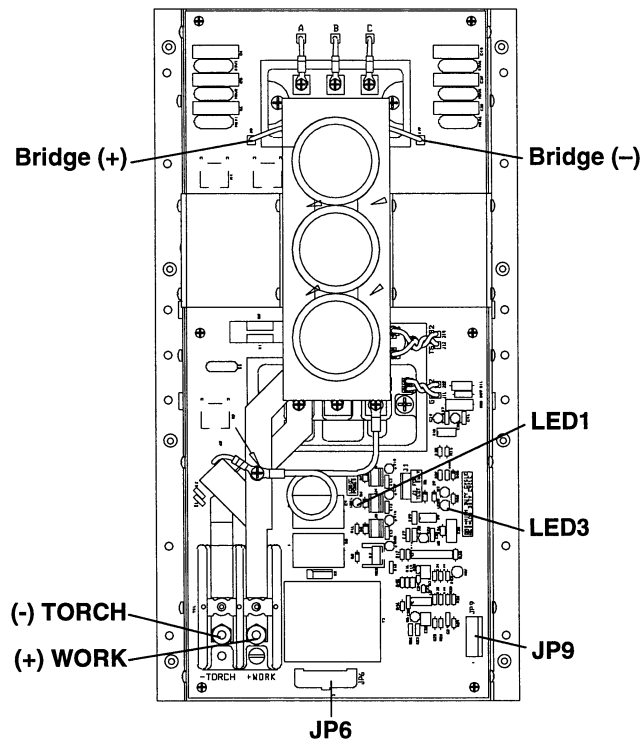

Figure 5-3 Chopper Module - Front View
3. Place the positive lead to the + side of the bridge and the negative lead to the - side of the bridge. See Fig. 5-3. Note that actual connection points are hidden by cap support bracket in Fig. 5-3.
5. If voltage from above step is +280 VDC and F5 is not blown, check output of chopper by putting the positive lead of the voltmeter at point (+) WORK and placing the negative lead on point (-) TORCH. See Fig. 5-3.